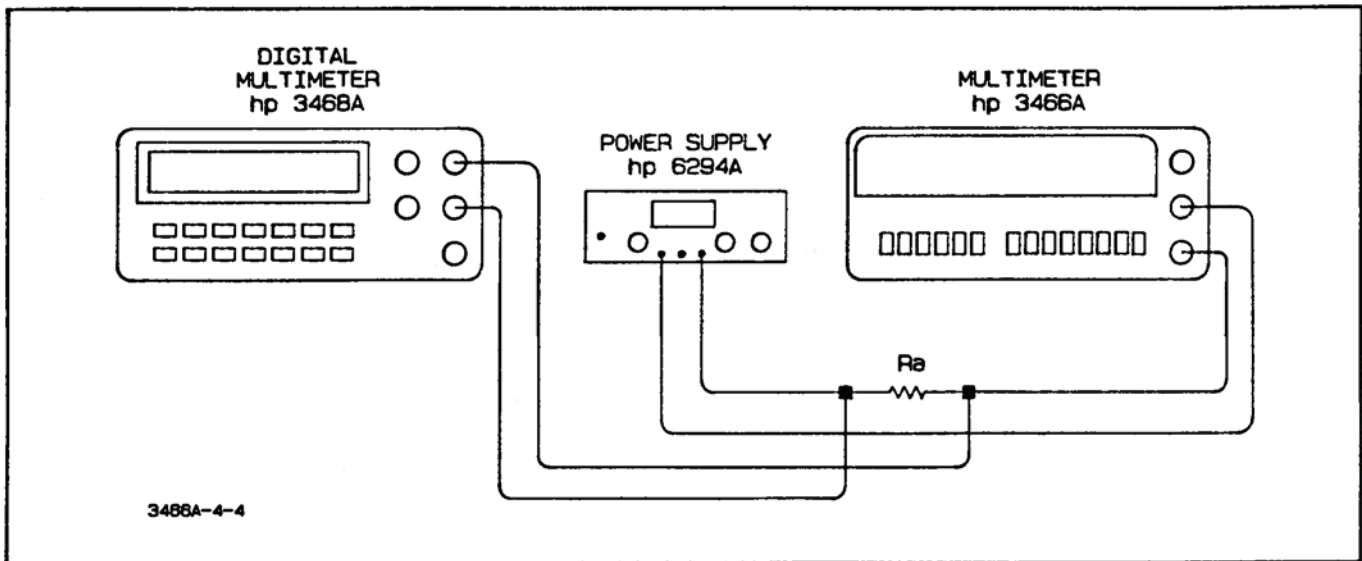

Figure 4-4. DC Ammeter Accuracy Test
- a. Connect the 3466A to the power supply and Digital Multimeter as shown in Figure 4-4.
- b. Connect the 100k ohm  $\pm 0.01\%$  resistor in the Ra position as shown in Figure 4-4.